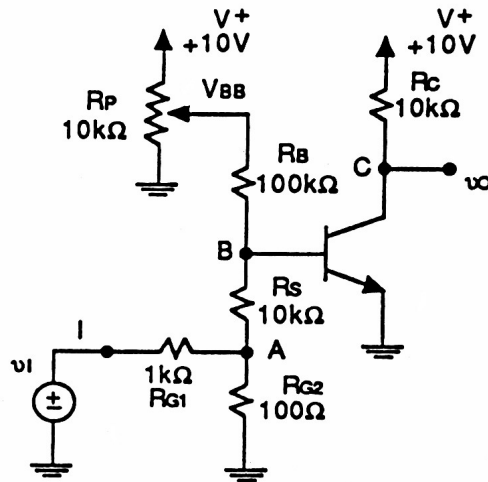

Figure 5: A Badly-Biased but Otherwise-Interesting Amplifier.
In the circuit of Fig. 5, with  $R_p$  adjusted so that  $V_C = 5\text{ V}$  with a  $10\text{ V}$  supply, and  $v_i$  adjusted to make  $v_c = 1\text{ V}$  peak, estimate the signal  $v_b$ . If the signal at node A is three times larger than that at B, estimate  $R_{inb}$  and  $\beta$ .
While the circuit shown in Fig. 5 uses a rather bad bias design, being a combination of base-current and base-voltage biasing, it is relatively convenient for the measurement of gain of a particular transistor under stable environmental conditions. Incidentally, the presence of the potentiometer  $R_p$  is, generally speaking, a sure sign of less-than-ideal design.
- **Setup:** Connect the circuit as shown in Fig. 5. (Note the earlier comment on the suitability of this bias design.)
- Connect the circuit as in Fig. 5.